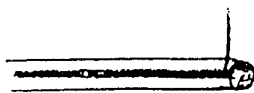

FIGURE 6.
1. Using a sharp knife, cut along the ridge on the leadwire about one inch, exposing the ripcord as shown in **Figure 6**. Do this to both pieces.